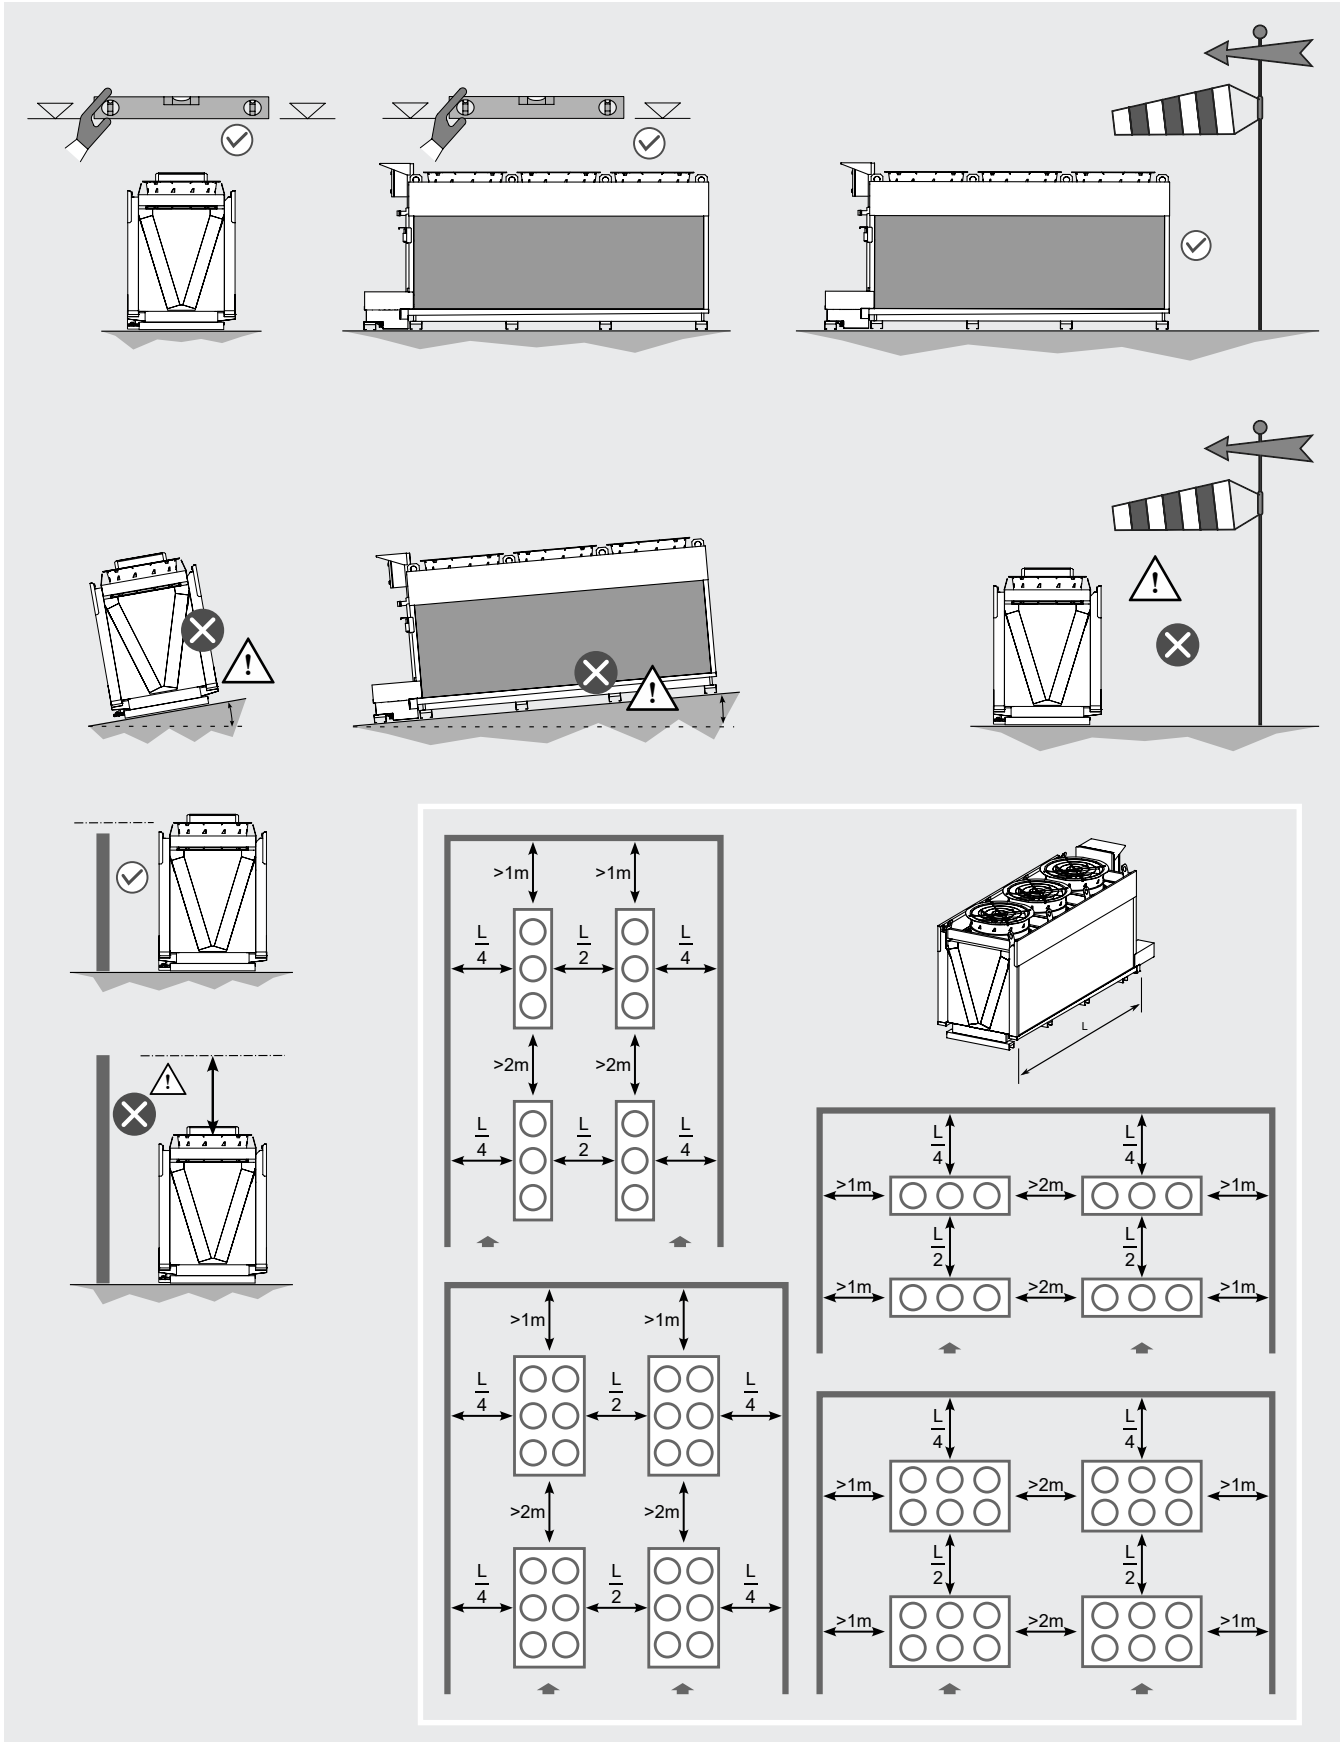

Figure 10
- 6.6 Provide space adequate to the circulation of air and for maintenance. Avoid directing the air flow against surfaces that are reflective or that otherwise increase the noise level. The minimum space between the models may be reduced according to the height of positioning with the use of special raised legs or a support platform. For optimal operation, position the model right-angled to the direction of the prevailing winds. For installations that are different from what is indicated, contact Modine. The model must be installed on a perfectly horizontal flat surface capable of bearing the weight of the model. See Figure 10.